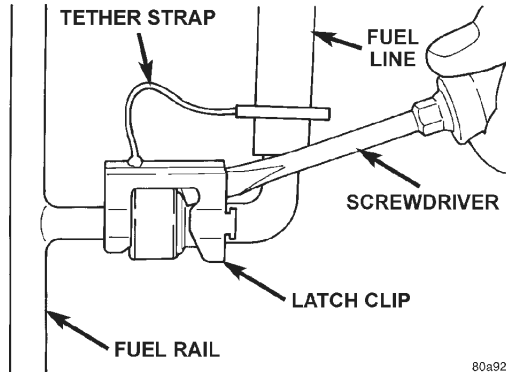

Fig. 20 Latch Clip Removal
A tethered latch clip (Fig. 20) is used to secure the fuel line to the fuel rail. A special tool will be necessary to separate fuel line from fuel rail after latch
- (1) Perform fuel pressure release procedure. Refer to Fuel Pressure Release Procedure in this group.
- (2) Disconnect negative battery cable from battery.
- (3) Clean fitting of any foreign material before disassembly.
- (4) Pry up on latch clip with a screwdriver (Fig. 20).
- (5) Slide latch clip toward fuel rail while lifting with screwdriver.